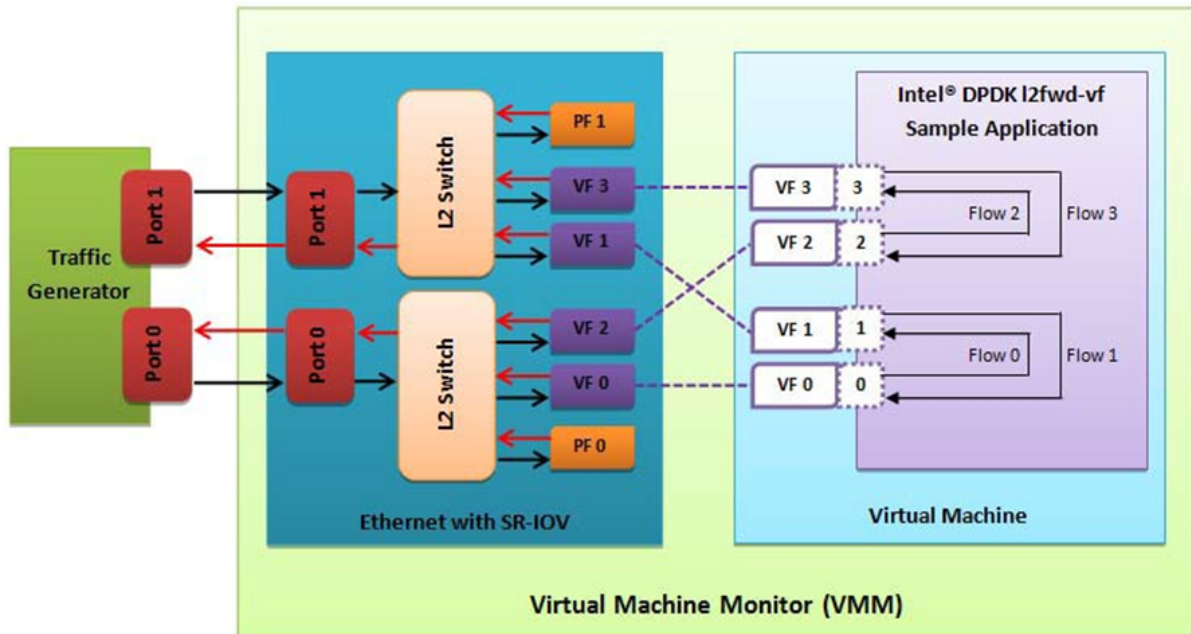

Fig. 26.2: Performance Benchmark Setup
- The Virtual Machine Monitor (see Fig. 26.2) is equivalent to a Host OS with KVM installed as described in the instructions.